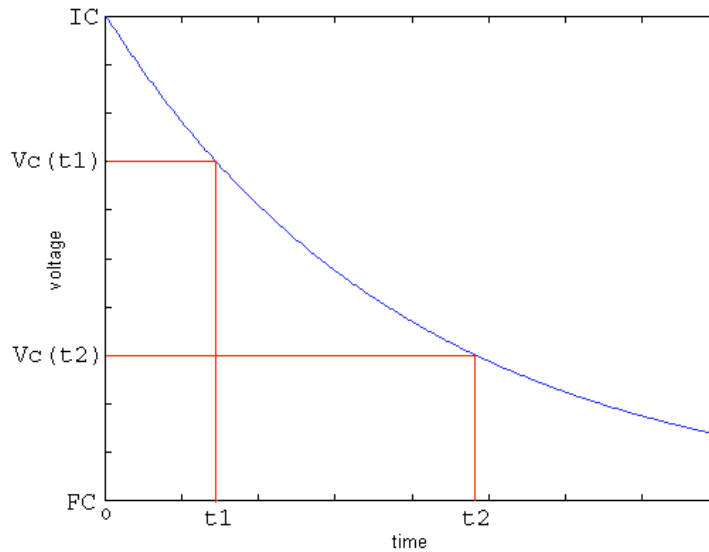

Figure 5. Measuring T_C by curve fitting to two points
- Equation 1 can be used to solve for the time constant T_C by measuring the voltage and time coordinates of the waveform at two points, as shown in Figure 5.